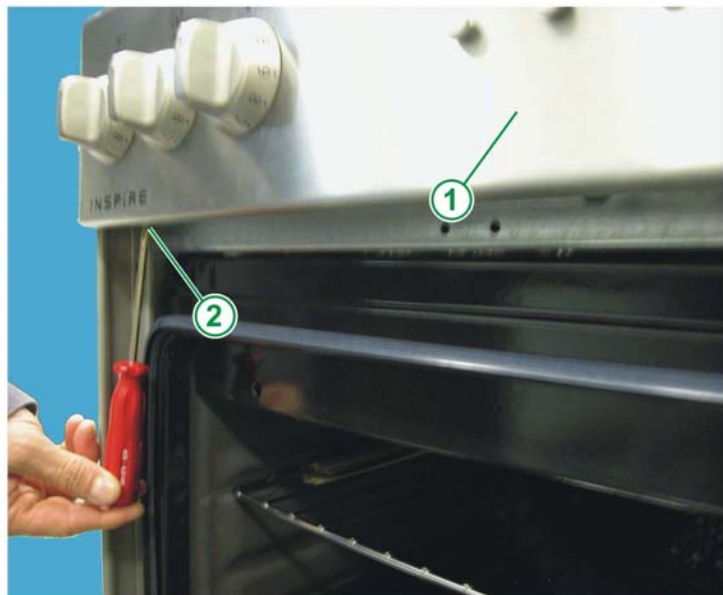

Fig. 80
3. Remove the two screws from the lower part of the control panel and detach the panel (see Fig. 80).